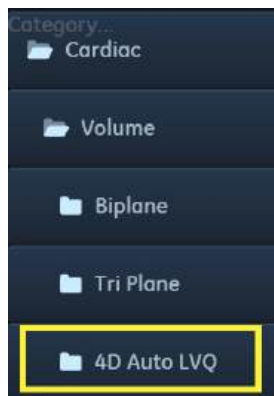

Figure 8-44. 4D Auto LVQ measurement selection
3. Select **Volume/4D Auto LVQ** (Figure 8-44).
The *Measurement* menu is displayed with the Alignment tool selected (Figure 8-44).